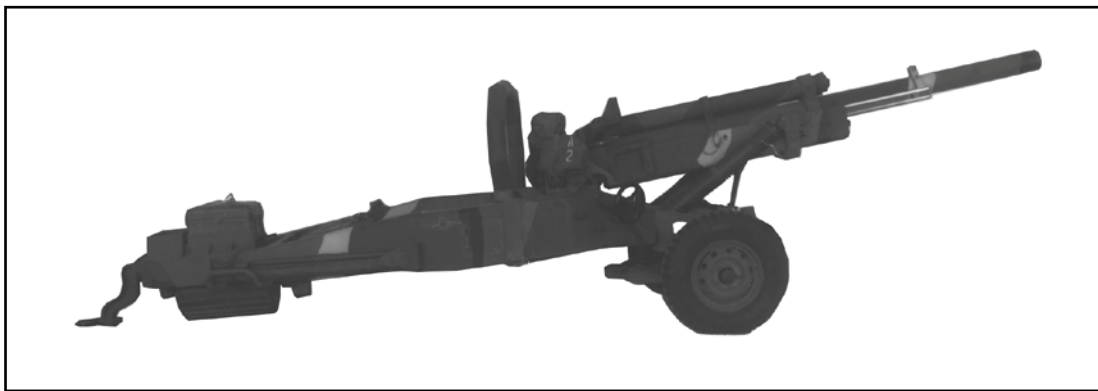

Figure 1. M102, 105-Millimeter Howitzer
- The unrigged M102, 105-millimeter howitzer (mounted on an M31 carriage) with an M137E1 cannon tube and roll-over protection structure weighs 3,680 pounds. Its length is 256 inches, reducible to 206 inches. Its height is 68 inches reducible to 62 inches. Its width is 91 inches with dual wheels and 75 inches with single wheels. The M102 howitzer shown in Figure 1 is equipped with single wheels. The rigging procedures for the howitzer with dual wheels are the same. The howitzer shown in Chapter 1, Section I, is rigged with 17 boxes of ammunition weighing 2,040 pounds. The howitzer shown in Chapter 1, Section II is rigged with 23 boxes of ammunition weighing 2,760 pounds. The howitzer shown in Chapter 2 is rigged with a 1 1/4-ton High Mobility Multipurpose Wheeled Vehicle (HMMWV) truck as its primer mover and with 30 boxes of ammunition weighing 3,600 pounds.